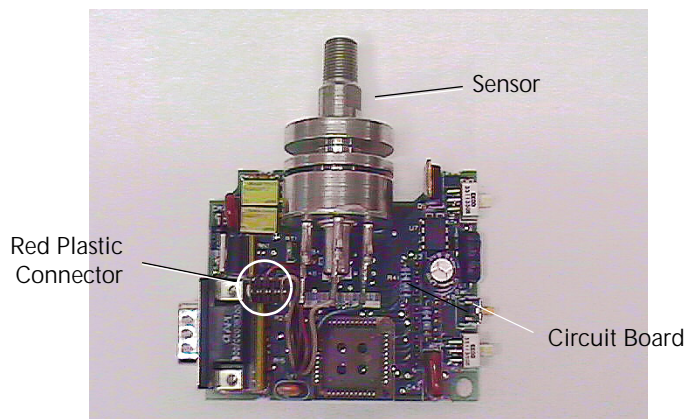

Figure B-3 Red Connector and Sensor
5. Locate and unplug the red plastic connector that attaches the cable from the sensor to the circuit board, as shown in Figure B-3.